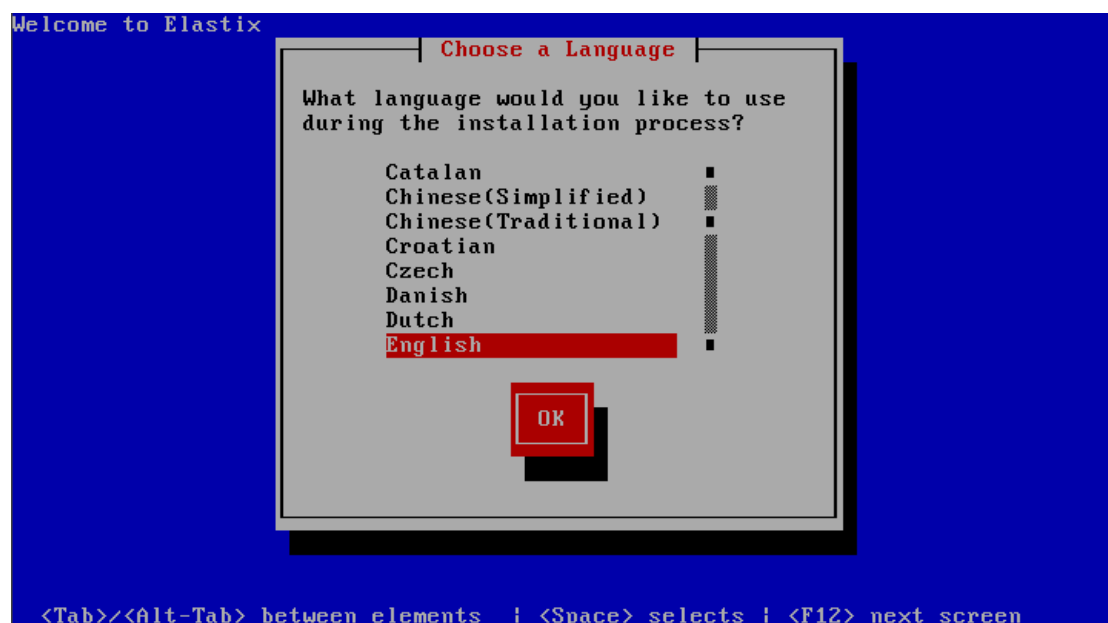

Figure 2
- Next, choose the language for installation. Here select 'English' (Figure 2).